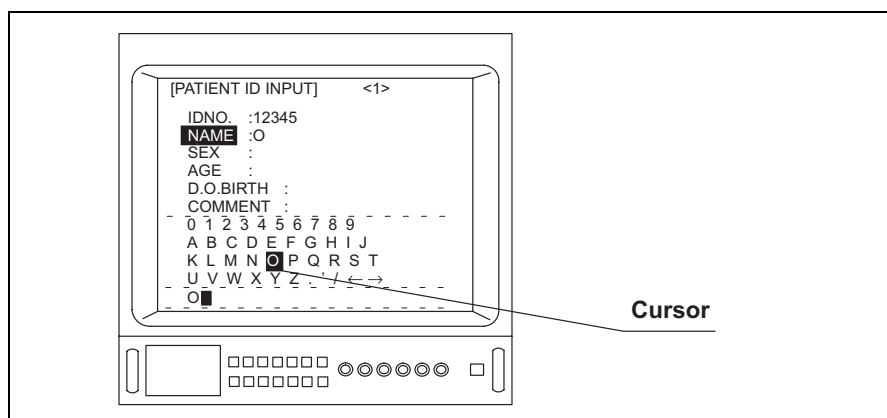

Figure 5.46
9. Depress the menu switch “←” or the “Enter” key on the keyboard to enter the character under the cursor (for example, “O”) (see Figure 5.46).